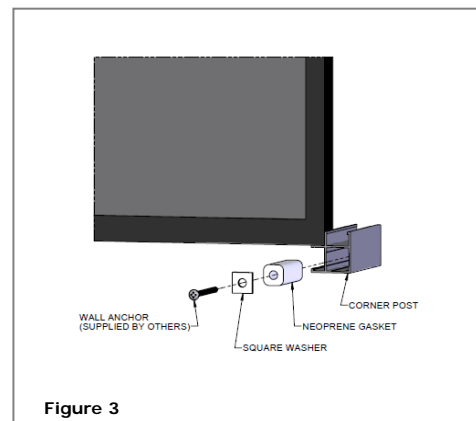

Figure 3
2. Insert the neoprene gasket and square washer into the corner post and run the wall anchor through them and into the wall. As the anchor is tightened, the gasket is compressed and secures the post. The gasket can be compressed down to $\frac{1}{2}$ " for appropriate stability. **See Figure 3.**